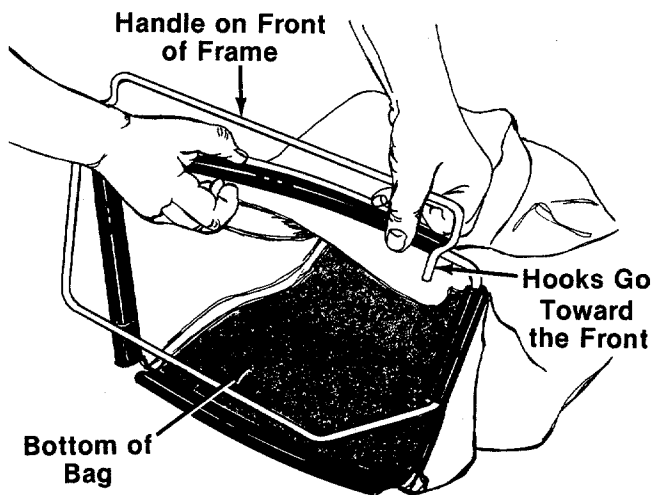
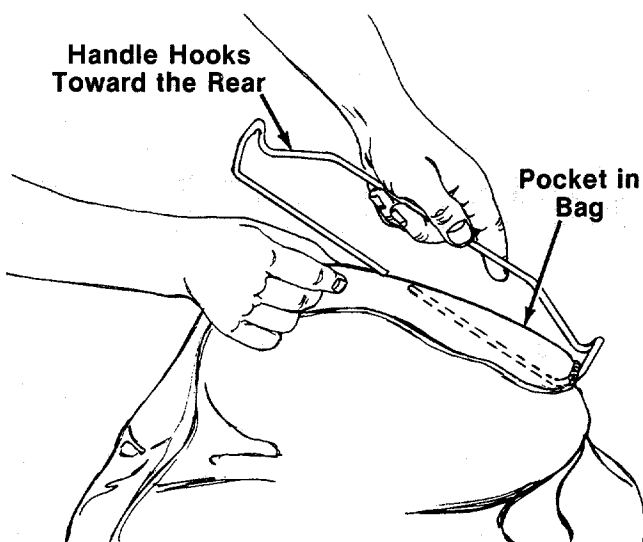

FIGURE 22.
FIGURE 23.
1. Place bag over frame (black plastic side is the bottom of bag). Handle on frame goes to the top of bag. Hooks go toward the front. See figure 22.
2. Secure bag to frame by slipping plastic channels on bag over frame. See figure 22.
3. Attach the rear handle to bag by inserting one side of handle into pocket on the rear of the bag. The handle should hook toward the rear of the bag as shown in figure 22. Thread all the material onto one side, then slide it over onto the other side. See figure 23.